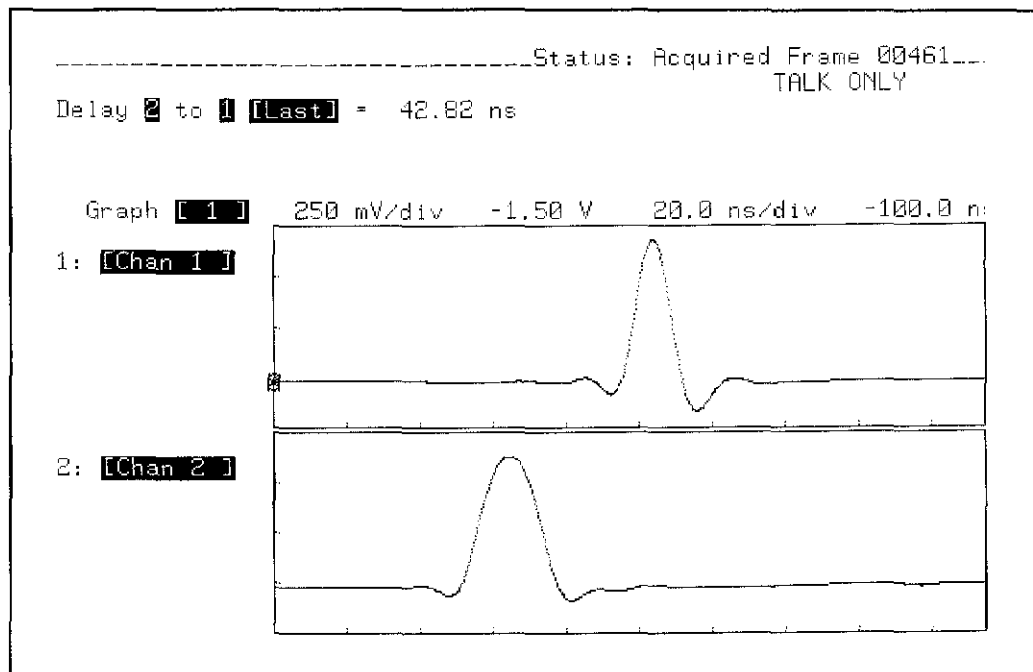

Figure 4-16. A8TP2 to A8TP1 Delay Waveform
8. Display channel 1 and channel 2. Select front panel measurement DELAY 2 to 1. Display should appear similar to figure 4-16. If triggered waveforms do not appear, adjust HP 54201A/D trigger level.